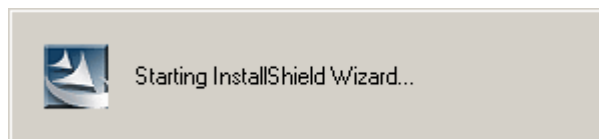

Figure 7-15: The InstallShield Wizard Starts
Step 4: The **InstallShield Wizard** starts (**Figure 7-15**).